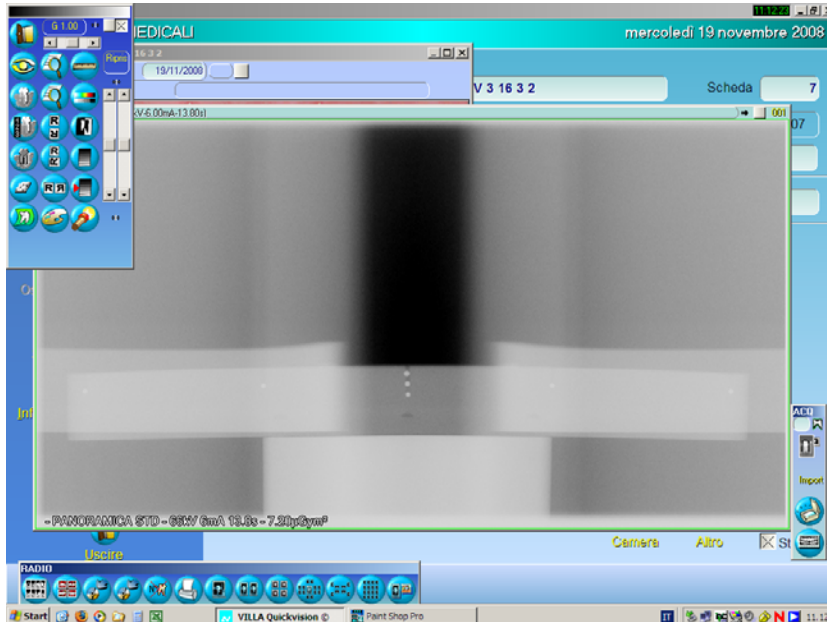
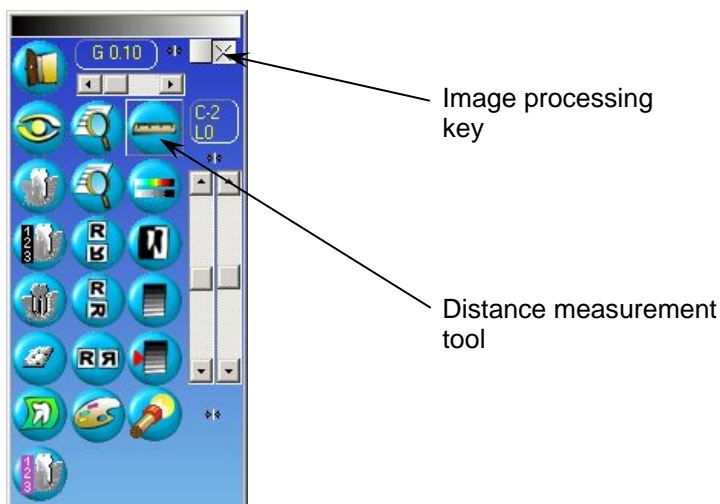

*Figure 7-1*
*Figure 7-2*
3. Place the centering tool (P/N 6107900200 - Figure 7-1) on the chin rest and the sensor calibration tool (P/N 5607900800 - Figure 7-2) in front of the sensor fixing it with tape.